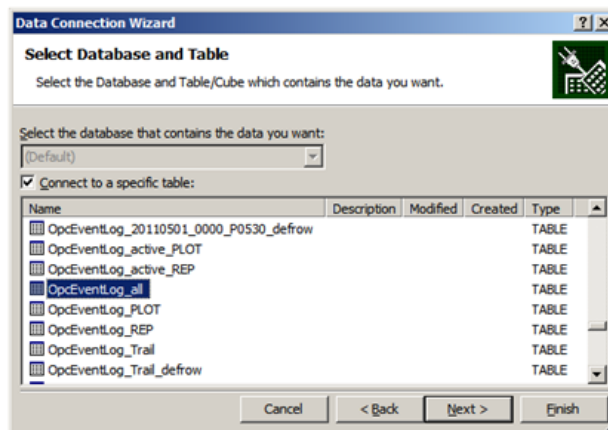

Figure 25. Data Connection Wizard - Select Database and Table screen
2. In the **Data Connection Wizard**, select **ODBC DSN** and then click **Next** to view the **Select Database and Table** screen as shown in Figure 25.